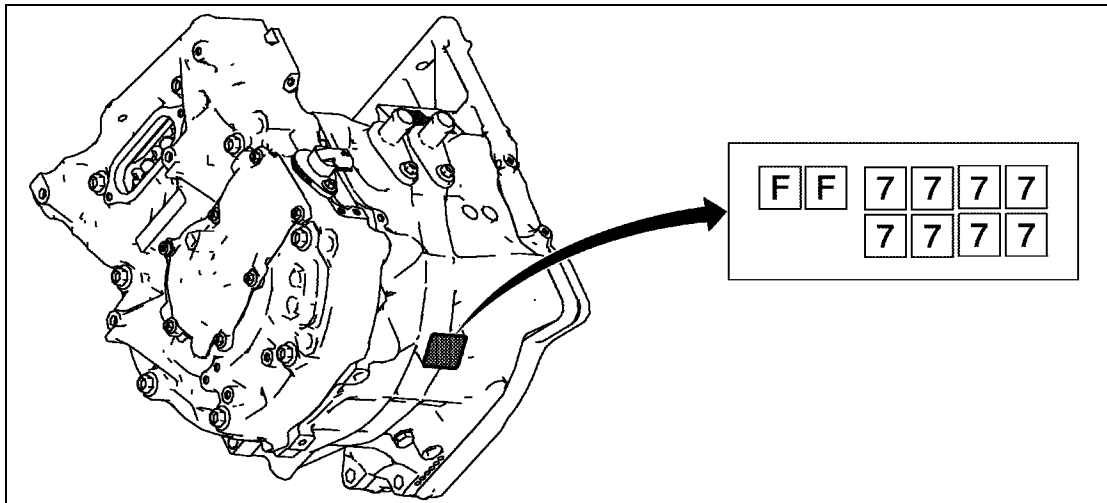

Figure 43
4. Enter the traction motor resolver offset (Figure 43).